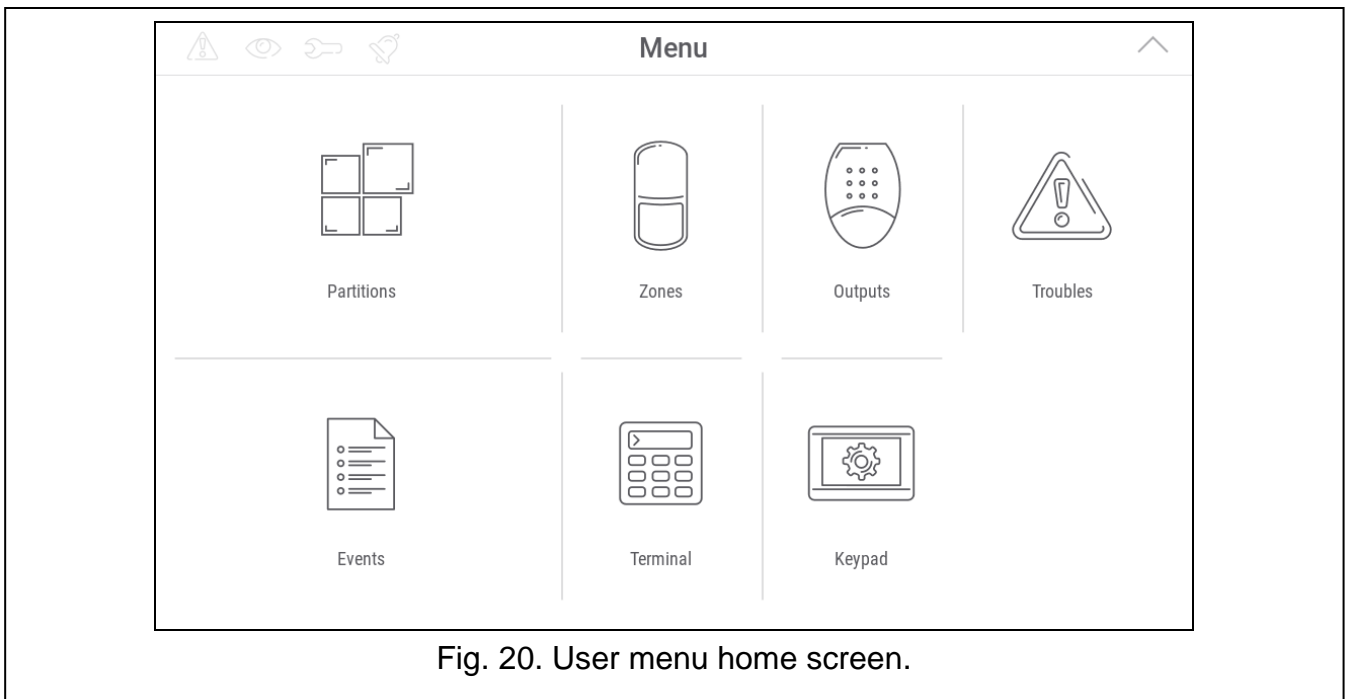

Fig. 20. User menu home screen.
3. Enter the service code (by default: 12345) and tap . The user menu home screen will be displayed (Fig. 20).